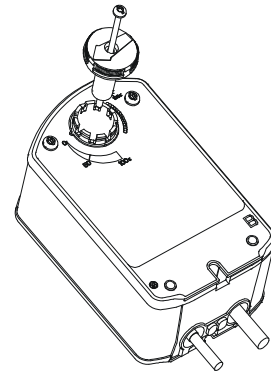

Figure 14: Installing the Fixed Pointer
6. Insert fixed pointer and M4x0.7x83 mm long screw into the Side B actuator hub. Direct the arrow on the pointer to 0% (Figure 14).